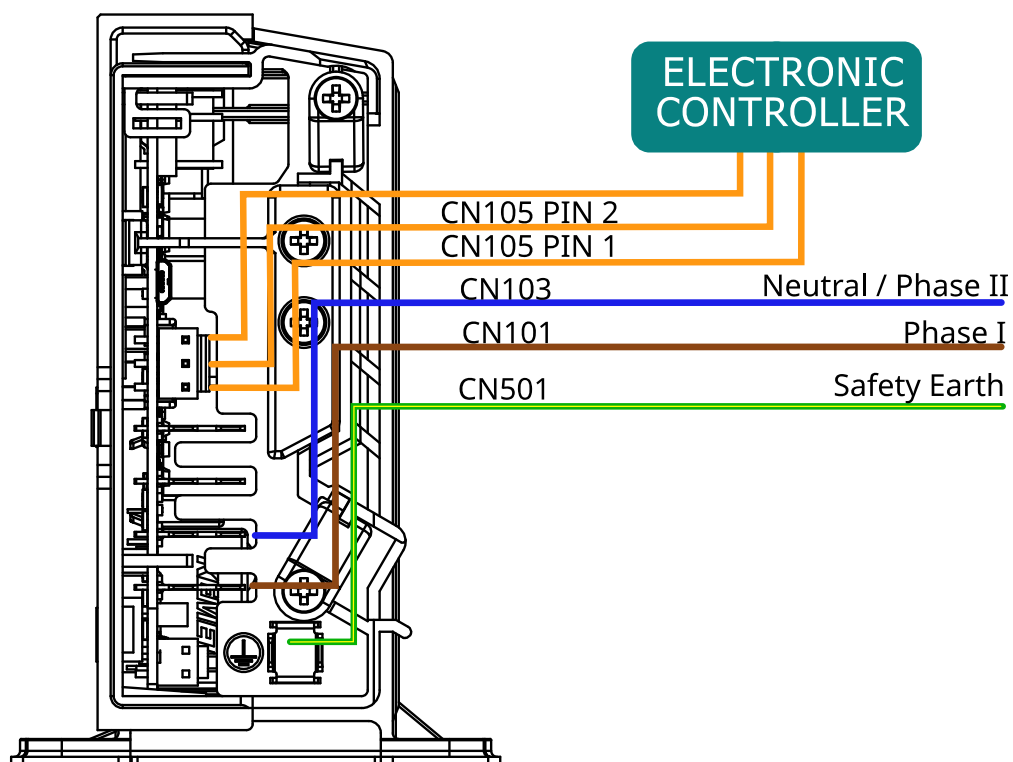

Figure 4-11: Serial connections
- This cable is 0.2m long and connects to the 3-pin connector of the inverter's serial interface showed in Figure 4-11.